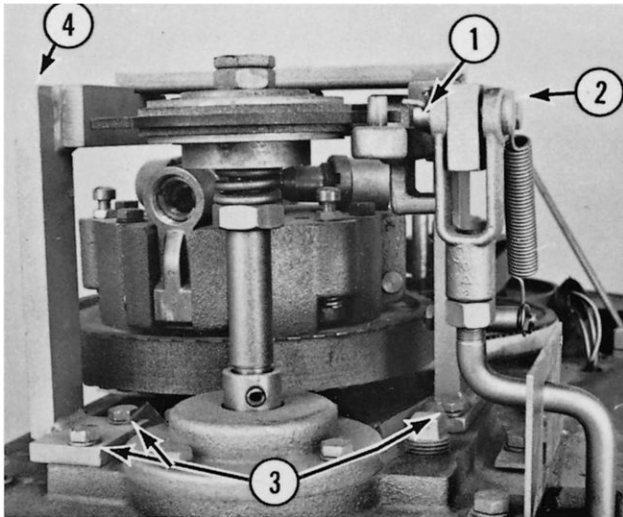

FIG. 12-1
A. Remove the cotter pin (1, Fig. 12-1) and clevis pin (2, Fig. 12-1) from the brake and clutch arm.
B. Remove the four bolts (3, Fig. 12-1) and lift the clutch shaft support (4, Fig. 12-1) from the mixer.